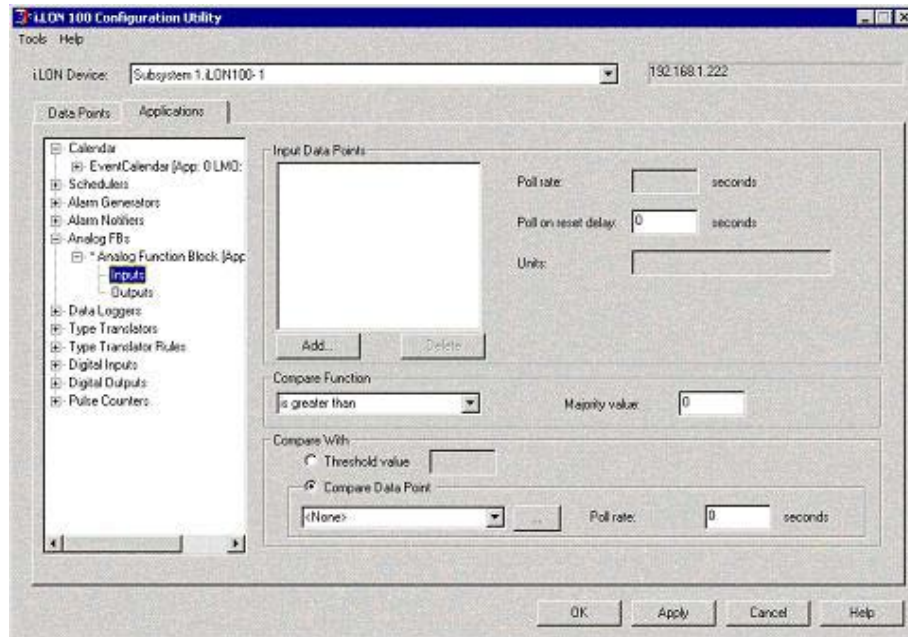

Figure 11.14 Applications List
1. Click **Inputs** under the analog function block on the Applications list. The **Inputs** dialog opens, as shown in Figure 11.14.